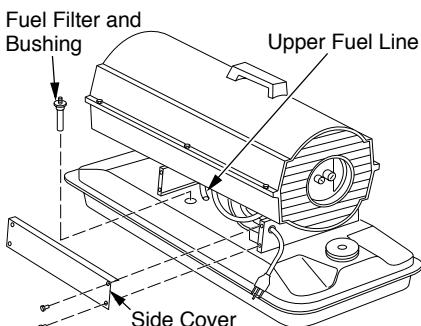

**Figure 14 - Adjusting Pump Pressure (40/55/60/70 Models Shown)**
4. Adjust pressure. Turn relief valve to right to increase pressure. Turn relief valve to left to decrease pressure. See specifications correct pressure for each model (see Figure 14).